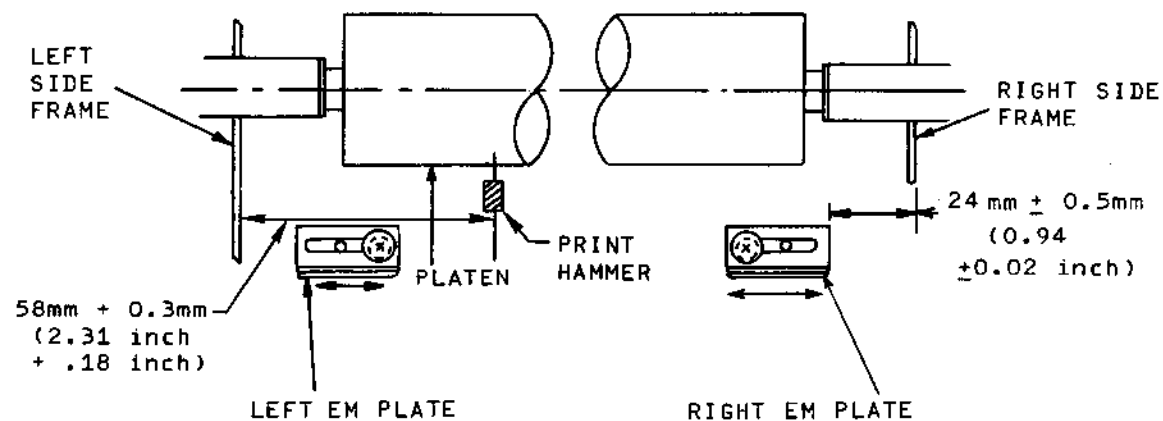

Figure 5-12 First Print Position and Right EM Plate Adjustment
5.9.1 First Print Position (Figure 5-12)
- a. Position the right side EM plate $24\text{ mm} \pm 0.5\text{ mm}$ (0.94 ± 0.02 inch) from the outside of the right side frame as shown in Figure 5-12.